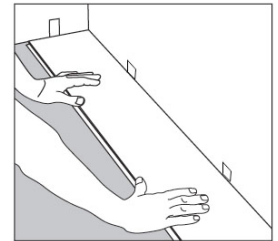
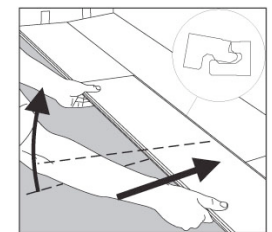

Figure 4
Figure 3
- a) Position the long side of the plank to be installed at an angle of 20-30° to the plank already installed. **(FIGURE 3)** Move the plank to be fitted slightly up and down at the same time as exerting forward pressure. **(FIGURE 4)**